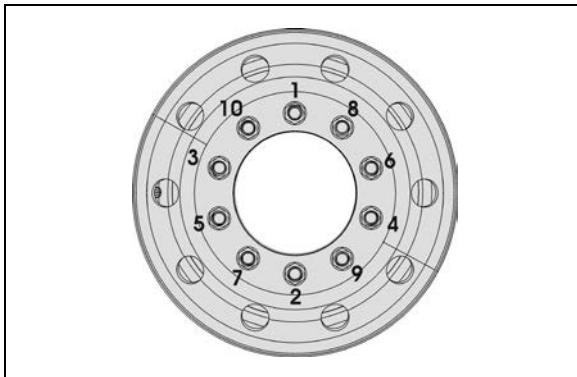

FIGURE 3: TIGHTENING SEQUENCE
It is also important that wheel stud nuts be tightened alternately on opposite sides of the wheel. Refer to Figure 3 for the suggested tightening sequence.
Tighten stud nuts progressively as shown in Figure 3. The final tightening should be done with a torque wrench.
2. Screw in the hex stud nuts (refer to Figure 3 for sequence) so that wheel will position itself concentrically with hub. This is important, otherwise wheel may be eccentric with hub and will not run straight. In this initial step, slightly tighten the nuts to correctly position the wheel;
3. Tighten stud nuts progressively as shown in Figure 3. The final tightening should be done with a torque wrench.
With inner and outer wheels installed, tighten the stud nuts progressively as shown in Figure 3. The final tightening should be done with a torque wrench.
Repeat for each of the 10 "hex stud nuts" according to the tightening sequence in figure 3.
Using a calibrated torque wrench, tighten wheel nuts. Do not use power tools or long bars for tightening. Tighten wheel nuts alternately as shown in figure 3.